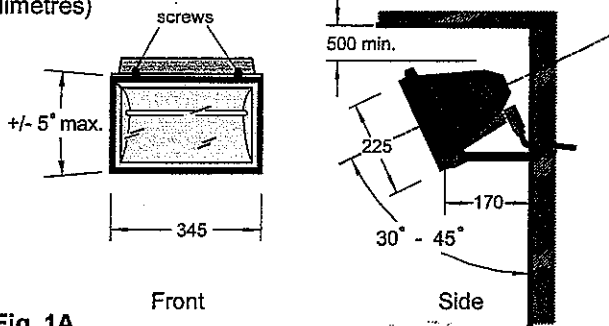

Fig. 1A
- c. Ensure the wall bracket is level  $\pm 5^\circ$  to the horizontal before fitting the heater - see Fig. 1A.